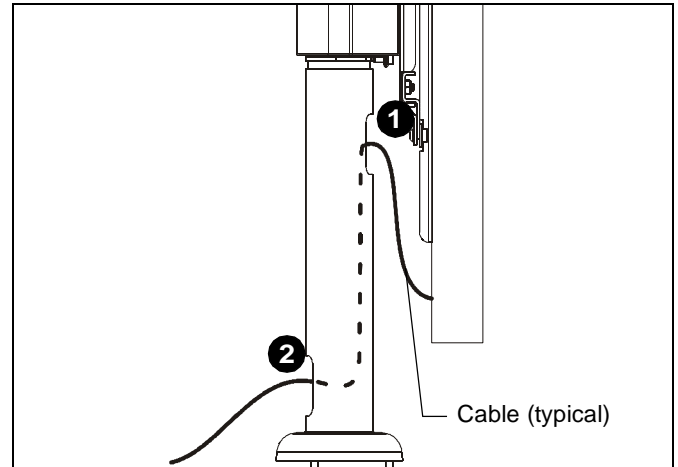

Figure 9
1. Route cables from display into upper hole on pole portion of table stand. (See Figure 9)
2. Route cables down the pole and out of lower hole. (See Figure 9)